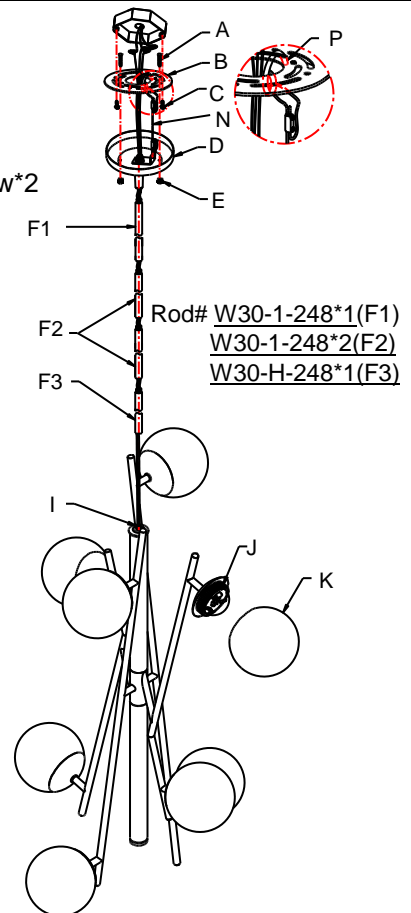

Fig. 2
## CONNECTING THE WIRES (Fig. 2)
7. Connect the electrical wires as shown in figure 2, making sure that all wire connectors are secured. If your outlet has a ground wire (green or bare copper), connect the fixture's ground wire to it. Otherwise, connect the fixture's ground wire directly to the circular strap (B) using the green screw provided.